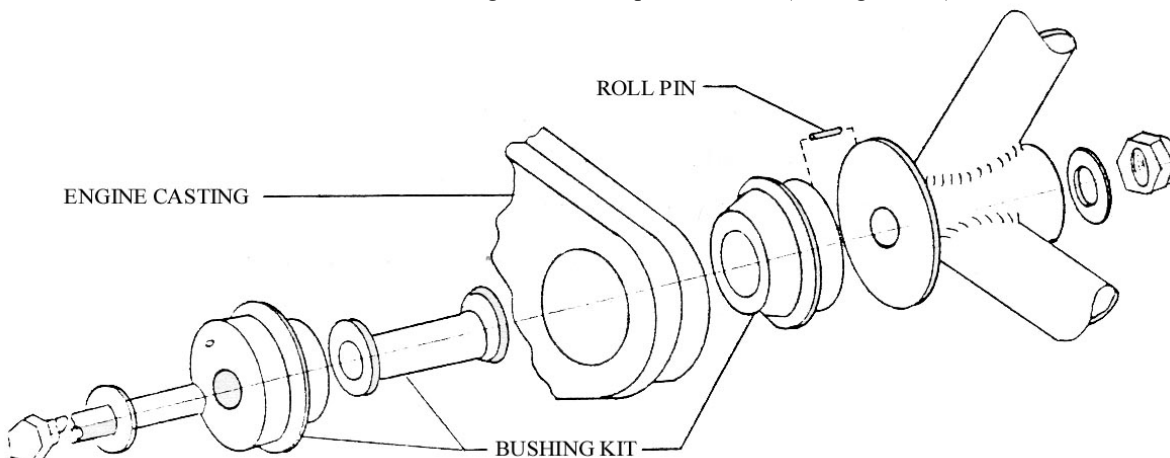

Figure 9-1, Installation Engine Isolator
4. Install washers and nut on bolt, tighten and torque to 35 ft lb (see Figure 9-1).